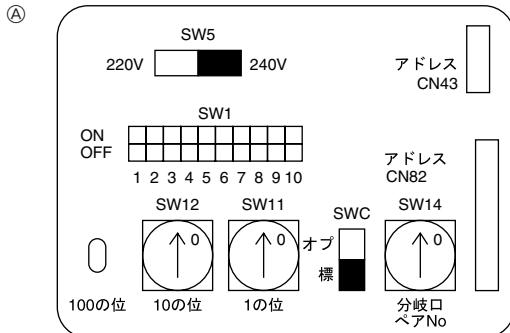

Fig. 4-4
- *1 Put the transmission cable earth via the outdoor unit's earth terminal (H) to the ground.
4.3. Setting addresses (Fig. 4-4)